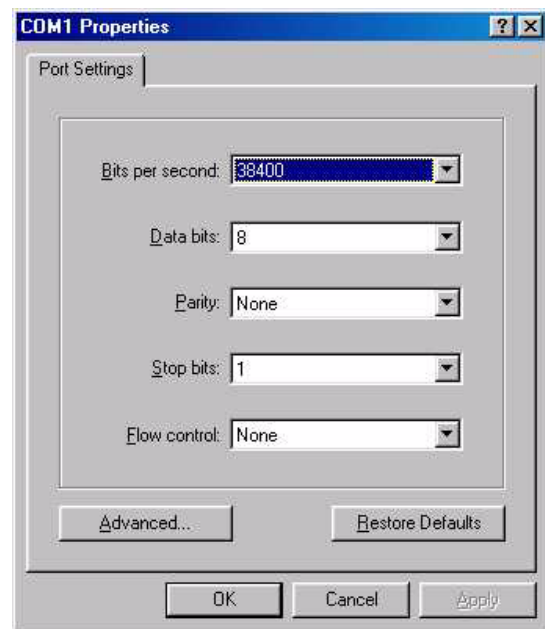

Figure 5-2 Hyperterminal settings window
8. (Refer to Figure 5-2) Select **CONFIGURE** and set: